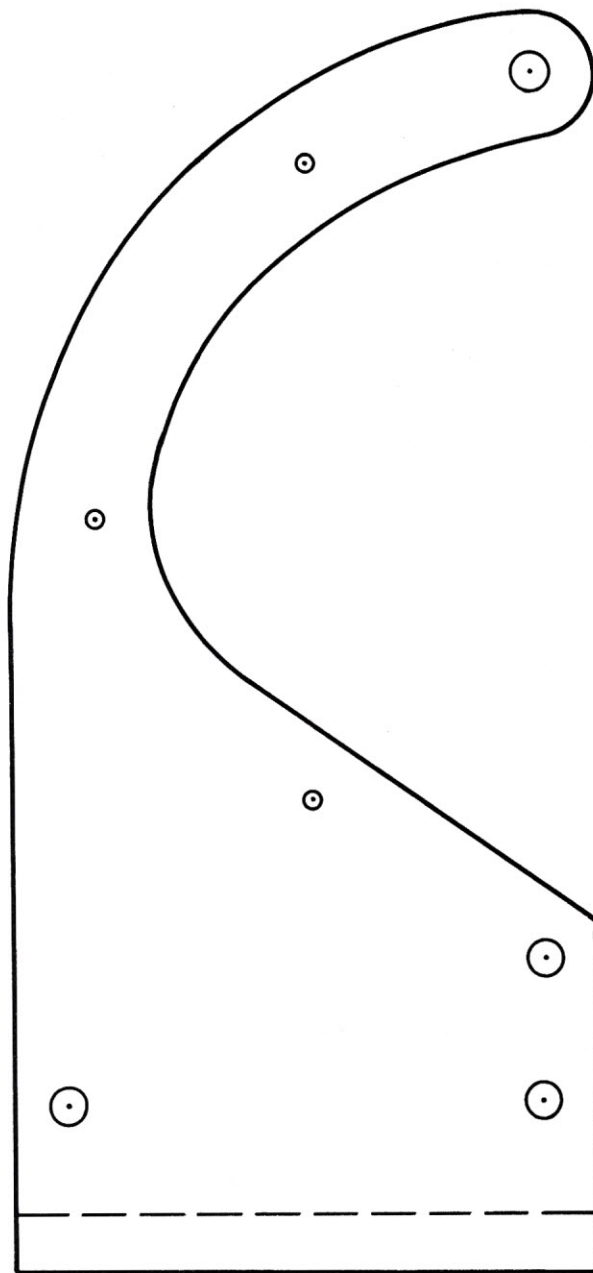

Figure 2: Template for the back finger plate.
- Two back finger plates made from $\frac{1}{16}$ inch sheet aluminum (see figure 2).